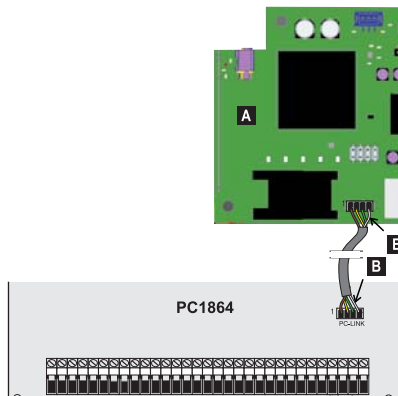

Figure 6 – Connecting the Communicator to a DSC Power Series control panel via a PCLINK-PCLINK cable: A) Communicator; B) white wire.
To connect the Power Series PC1864 control panel to the Communicators you will need a PCLINK-PCLINK cable (see Figure 6) connecting the PC-LINK connector **15** on the Communicator with the PC-LINK connector on the control panel, making sure that you insert the connector the right way round.
*Connect the PCLINK/PCLINK cable as shown in Figure 6, please note that the white wire on the PCLINK-PCLINK cable connector must be connected to pin 4 of the PC-LINK connector on the Communicator and on the control panel.*